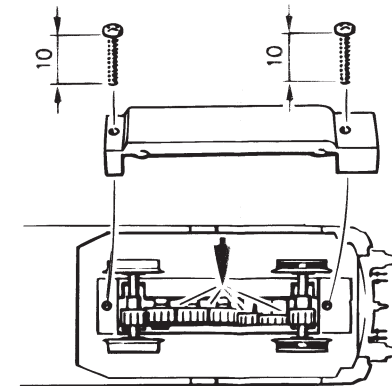

Fig. 5
4. Change of traction tyre: Remove **gear cover** (fig. 5). Take out **wheel set** and remove **traction tyre** using a pin or a fine screwdriver (fig. 8). When pressing on the new traction tyre please **avoid twisting** it.